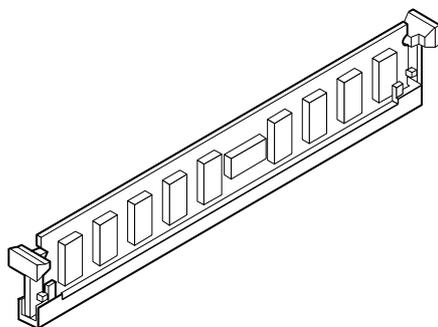

Figure 8-7 Properly Seated DIMM
5. Gently push the plastic ejector levers out and down to eject (Figure 8-7) the DIMM from its socket.